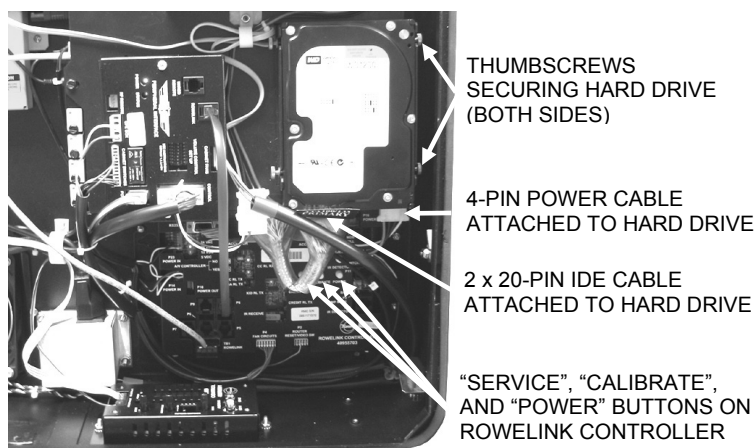

Figure 9-B – Inside View of Lower-Right Side of Cabinet
3. Partially install the 2 provided thumbscrews in the mounting holes on each side of the hard drive (see *Figure 9-B*), leaving about 1/16 of an inch between the hard drive and the thumbscrew.
4. Install the hard drive into the bracket in the lower right-side of the jukebox (as shown in *Figure 9-B*) and tighten the thumbscrews on the left side of the hard drive, leaving the thumbscrews on the right side of the drive loose.
5. Locate the free ends of the 4-pin hard drive power cable and the 2 x 20-pin IDE cable. These cables will be routed out of the bottom of the computer core near the hard drive. Connect these cables to the hard drive as shown in *Figure 9-B*.
In order to properly connect to the network, a valid trigger code must be entered in the software. To enter your trigger code, press the SERVICE button on the Rowelink Controller (see *Figure 9-B*). On the touchscreen, touch **System Setup** and then touch **Enable/Extend Features**. Enter the trigger code provided to you with your hard drive and then press the **Send Code** button. The jukebox will display "Valid trigger code entered" if it accepted your entry.